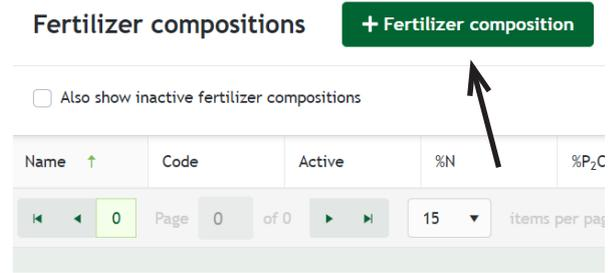

Figure 8
2. A new screen will open as shown in figure 8. Click on the green '+ Fertiliser composition' button to create a mix.